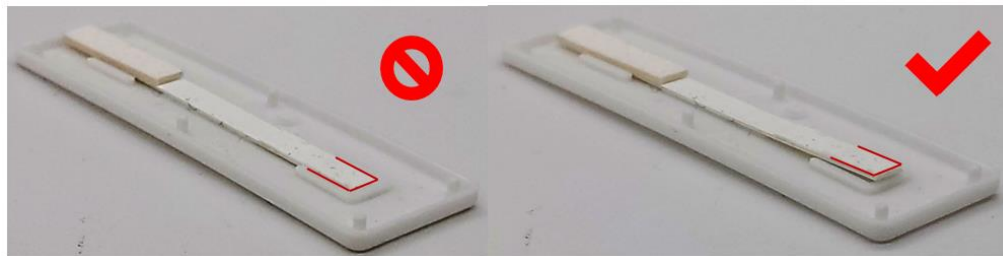

Figure 1
- a. Place the strip with the wick side against, not on top of, the small plastic ridge at the top of the cassette. This will position the conjugate pad side of the strip in a way that sits on top of the U-shaped ridge at the bottom of the cassette. Doing so will elevate the strip so that it properly seals the sample port. Reference Figure 1. for clarification.